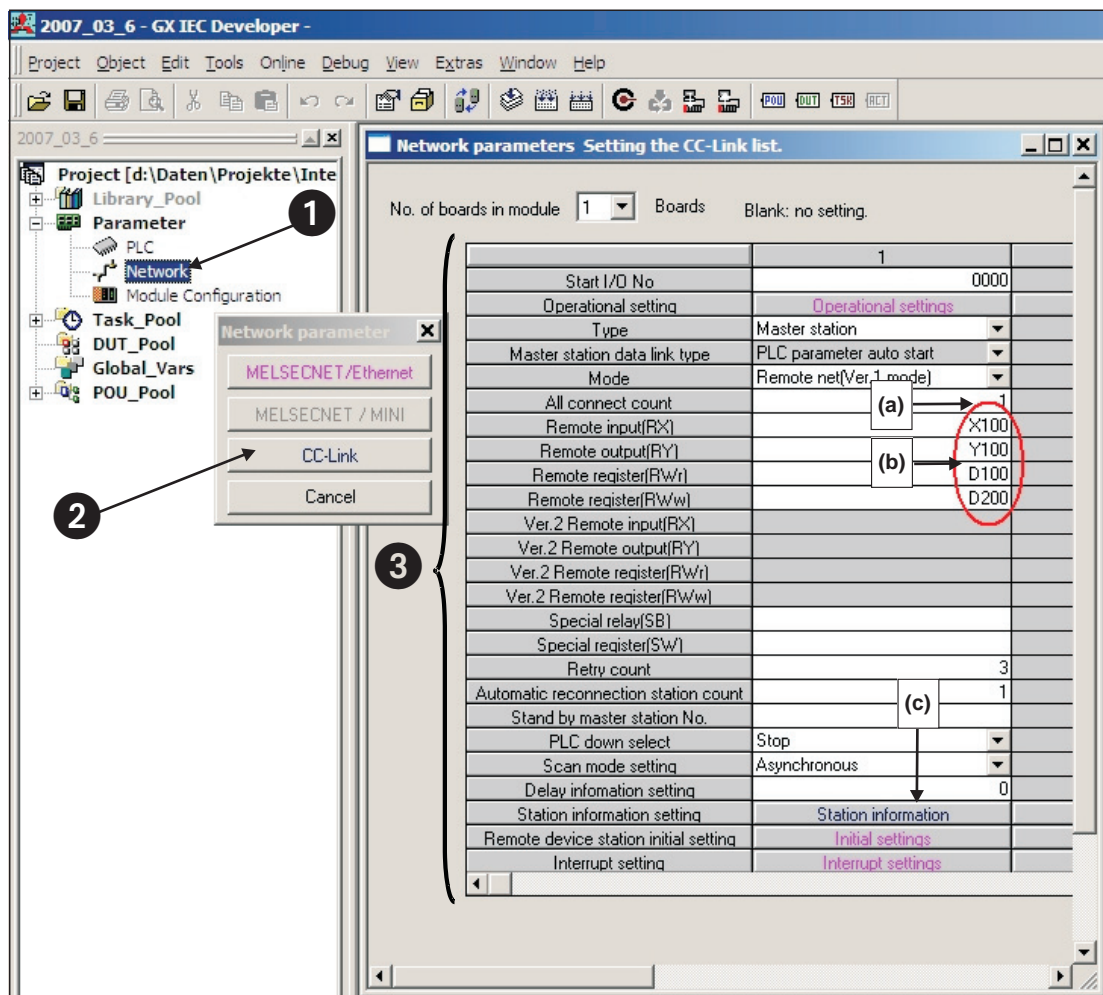

Fig. 5-6: Settings required in GX IEC Developer for CC-Link communication between the controller and the servo amplifier
- ① Select **Network** ① in the project directory tree in the left window.
- ② Select **CC-Link** ② in the **Network Parameter** box.
- ③ This opens the window **Network parameters: Setting the CC-Link list** where you can now enter the settings shown in Fig. 5-6 ③.